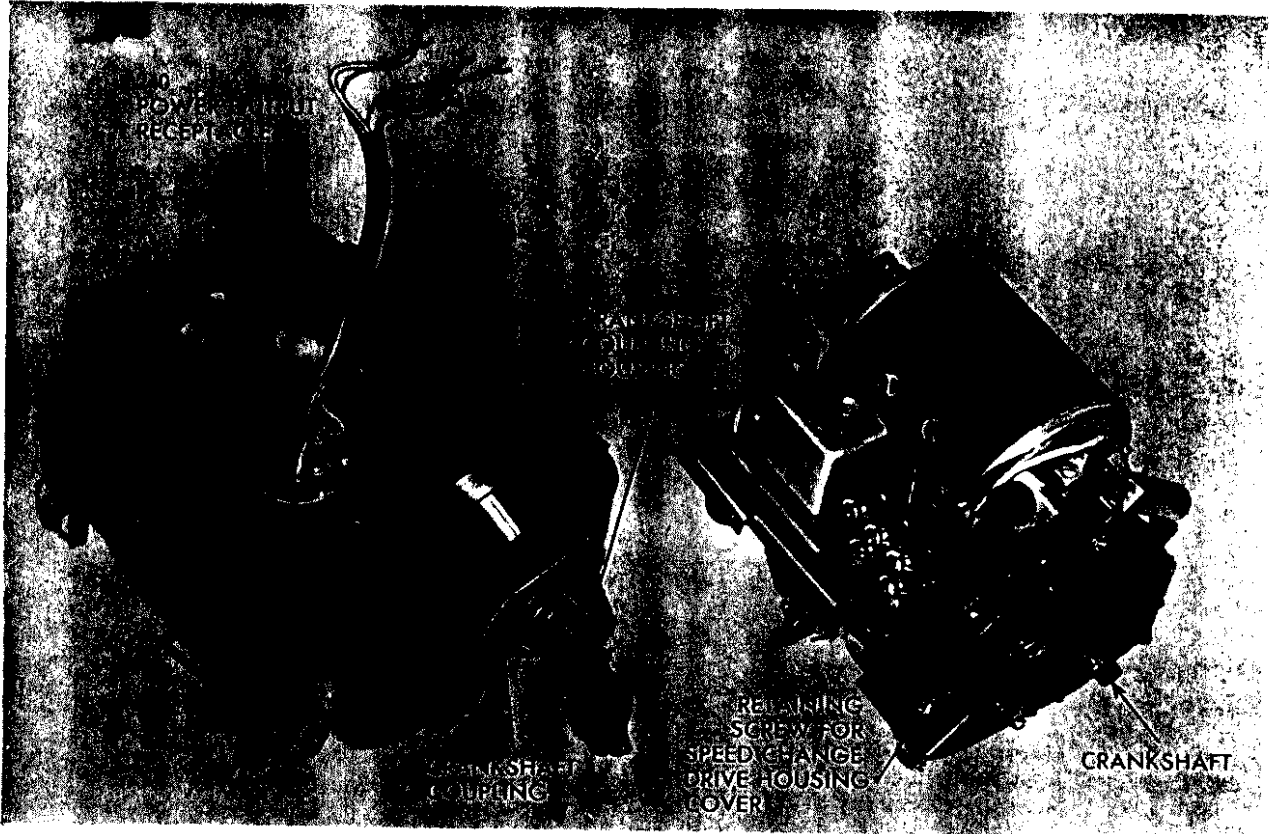

Figure 107. Generator GN-58-A-GY, removed from bottom half of housing.
b. Remove the seven screws located around the flange of the right crankshaft coupling housing (fig. 107).
k. Again, with the screw driver, pry the chassis away from the sides of the housing. The generator and filter assembly then can be lifted out and away from the housing as seen in figure 107. With the generator removed from the housing, all the components are easily located.
- b. Take off the speed change housing cover by removing the six screws around the edge of the cover (figs. 107 and 114.1).
- c. Remove the screw that secures the sprocket gear to the armature shaft (fig. 107).